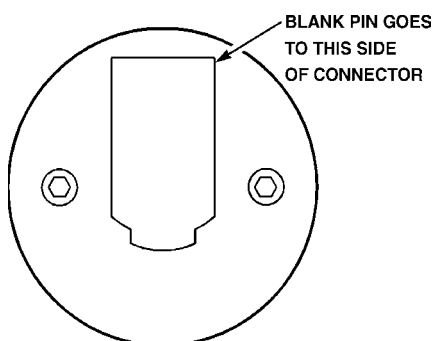

Fig. 4-2 Jog handle encoder.
3. Unplug the cable leading to the jog handle encoder. **IMPORTANT!** The blank pin side of the connector must face as shown in Fig. 4-2 when reconnecting; otherwise, damage may occur to the machine.